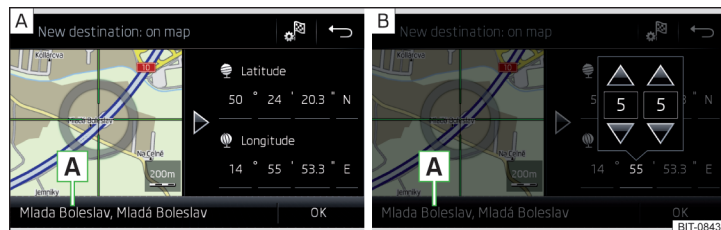

Fig. 187 Enter destination: via the map point/using GPS coordinates
- › Touch the screen to move the desired destination into the cross-hair » Fig. 187 - **A**.
- › Tap in the values of the GPS coordinates one at a time and adjust » Fig. 187 - **B**.
If information about the point entered is available in the Infotainment system's navigation data, this will be displayed instead of the GPS coordinates (e.g. address **A** » Fig. 187).